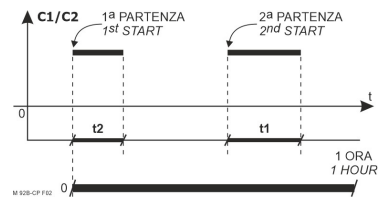

FIG. 2
**PROG. 10 for C1:** COUNTING of the “closures of C1” that occur in 1 HOUR from the first closure (see Fig. 2).